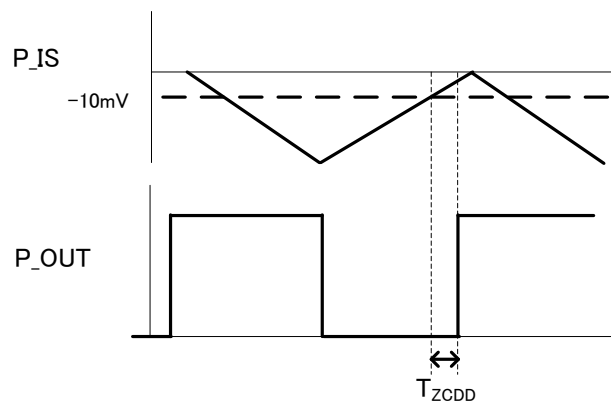

Figure 32. P_IS Zero Current Detection Delay Time
Zero current detection circuit is used to sense the zero crossing of Inductor current (IL). P_OUT output is set to be low after zero detection delay because P_IS voltage becomes more than zero current detection voltage. The over-current detection of an inductor current is set to be $V_{th}=-0.6V$ (typ) of P_IS voltage. To remove switching noise, we recommend additional CR filter in P_IS pin. The operation is shown is Figure 32.